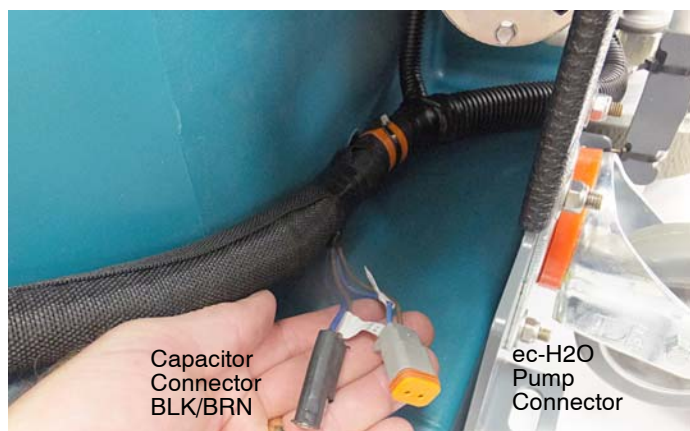

Fig. 18
6. Locate the the factory installed pump connector and capacitor connector cable-tied to the main machine harness near pump (Figure 18).